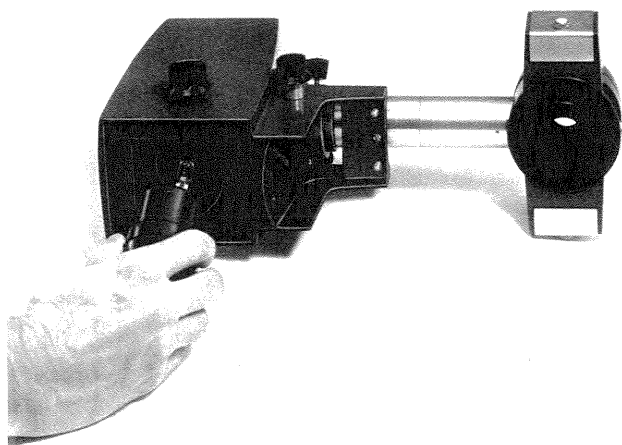

Figure 19.
3. Insert the lampholder into the lamphouse with lamp forward (Figure 19). Leave about an inch of the lampholder protruding and tighten the retaining knob.